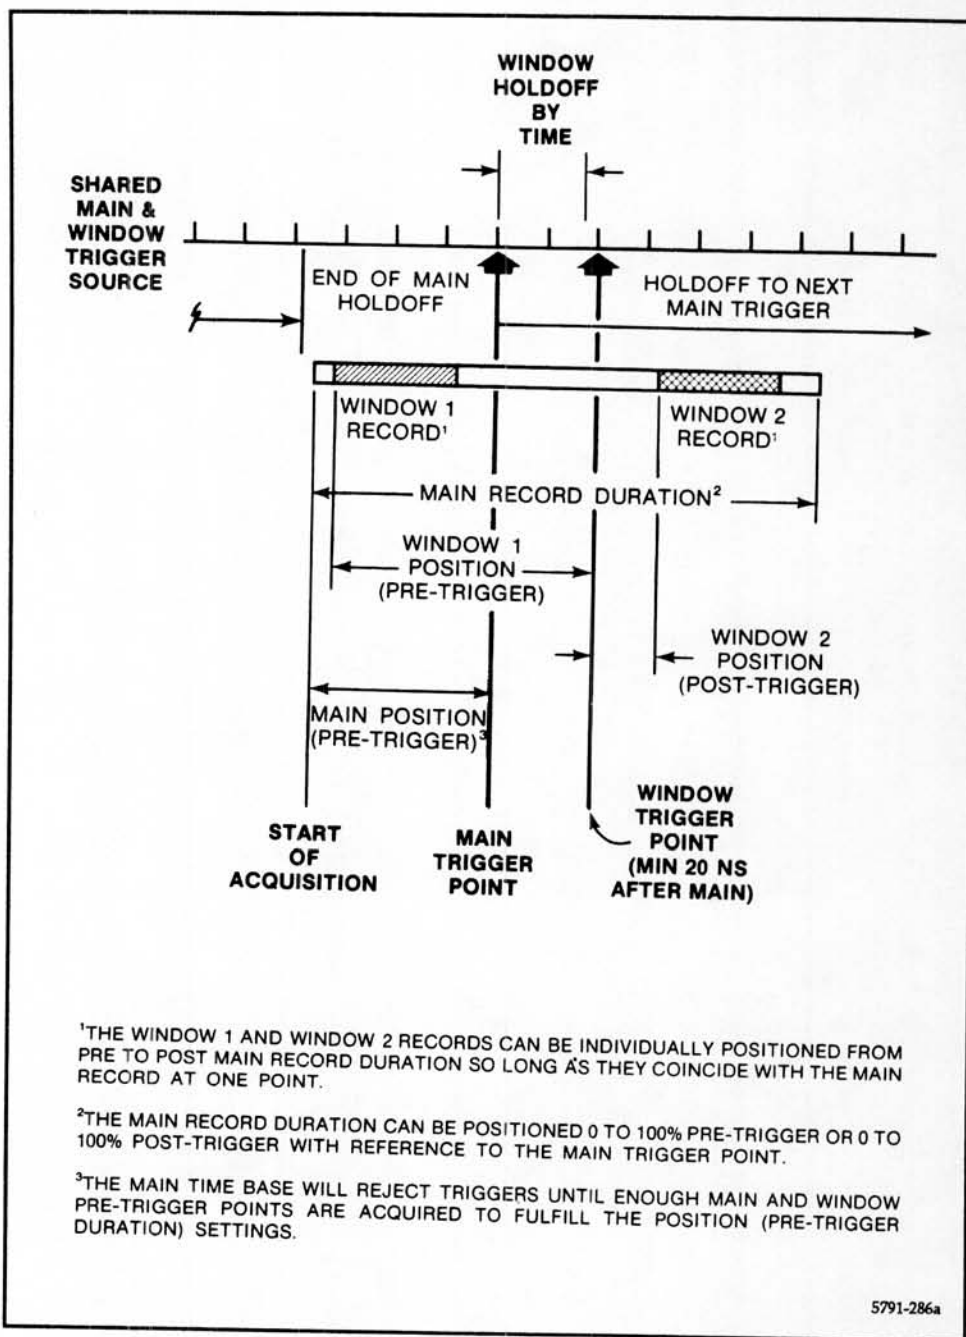

Figure 2-25. Window Trigger point holdoff by time from the Main Trigger Point.
- **Holdoff by Time Triggered from Window**—The Window time base trigger is held off (not allowed) for a user-set time period after the Main trigger. The Control knobs are assigned to vary the time holdoff when the **Holdoff** label or Trigger icon is selected. Window records are positioned with respect to the Window trigger point. Touch the Horizontal Size and Position icon to position the Windows. Figure 2-25 presents an example of this trigger holdoff mode in graphic form.